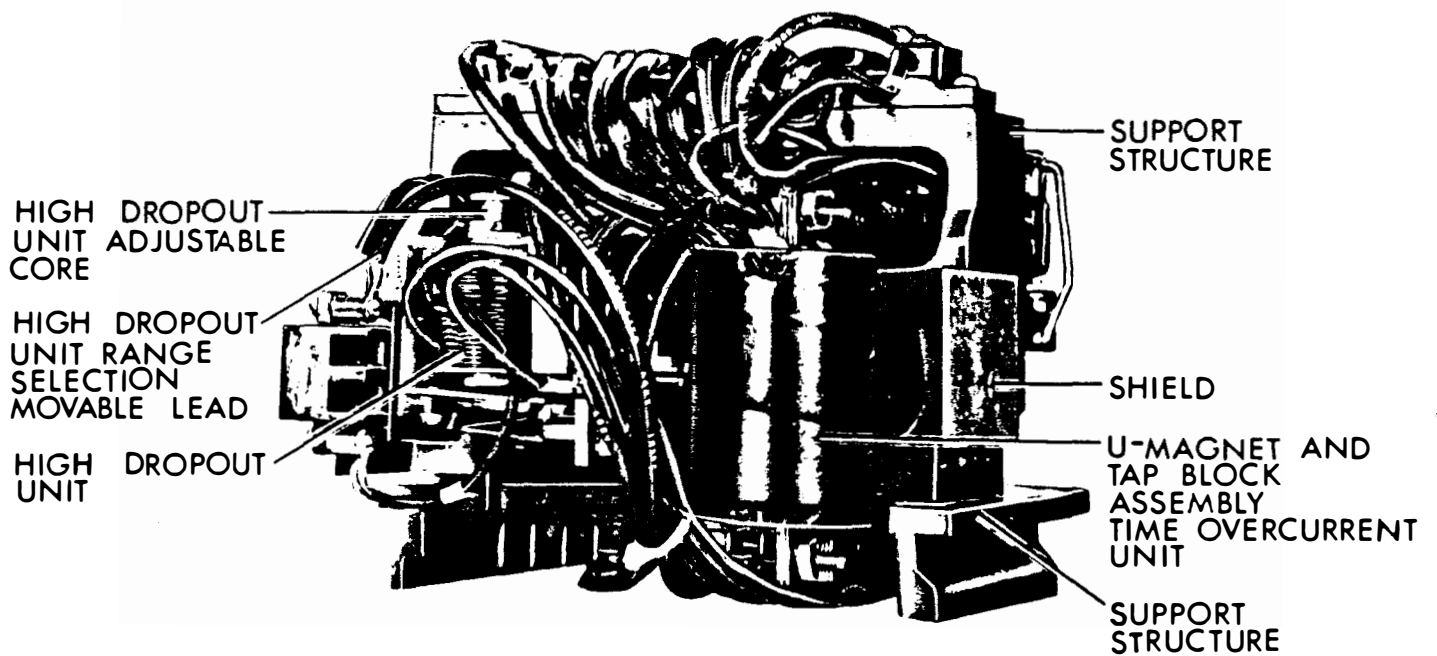

Figure 2 (8043011) Type IFC66KD Relay Removed from Case, Rear View
1. Select the desired range by setting the movable lead in the proper position (see Figure 2 and the internal connections diagram). Always select the higher range whenever possible, since it has a higher continuous rating.